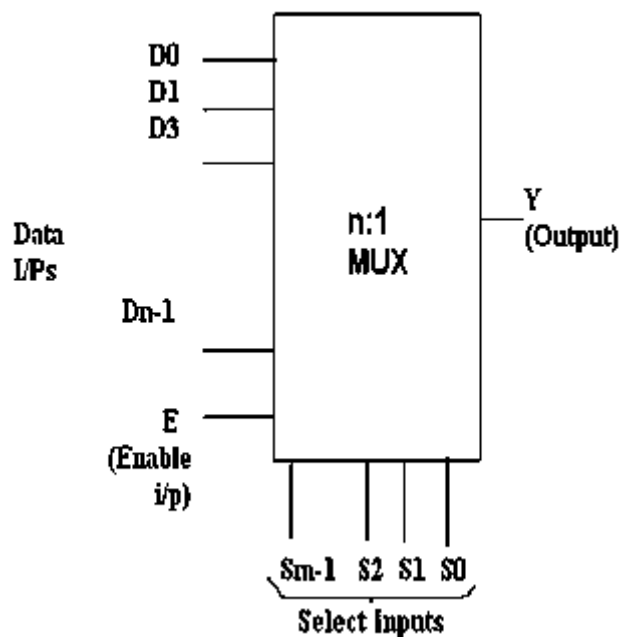

Fig 10.1: Block diagram of n: 1 Multiplexer
Multiplexer is a combinational circuit that is one of the most widely used in digital design. The multiplexer is a data selector which gets one out of several inputs to a single output. It has n data inputs and one output line and m select lines where $2^m = n$ shown in fig10.1. Depending upon the digital inputs applied at the select inputs one out of n data input is selected and transmitted to a single output channel. Normally strobe (E) input is incorporated which is generally active low which enables the multiplexer when it is LOW. Strobe input helps in cascading. IC 74151A is an 8: 1 multiplexer which provides two complementary outputs Y and $\bar{Y}$. The output Y is same as the selected input and $\bar{Y}$ is its complement. The $n: 1$ multiplexer can be used to realize m variable function. ($2^m = n$, m is no. of select inputs)